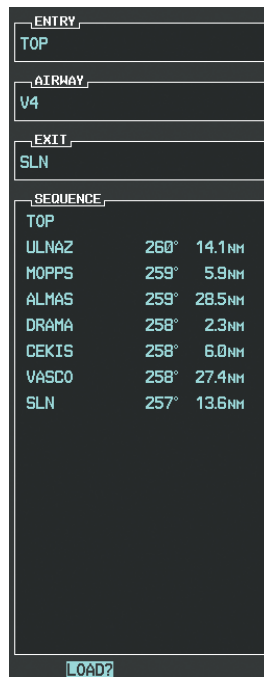

Figure 5-120 Ready to Load V4
- j) Press the **ENT** Key. The selected airway and exit are displayed, and the prompt “LOAD?” highlighted as in Figure 5-120.